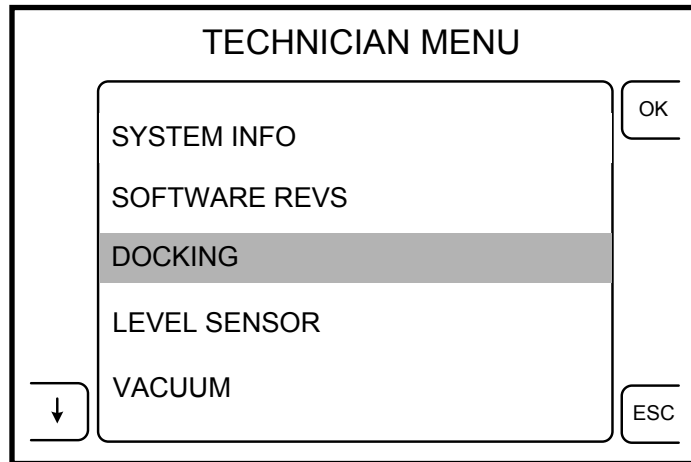

Figure 4: Select DOCKING Option
4. Once the technician menu is displayed, push the button next to the arrow icon (on the left side) to highlight the DOCKING option. Then press the button next to the OK icon to select the docking menu. (see figure 4)